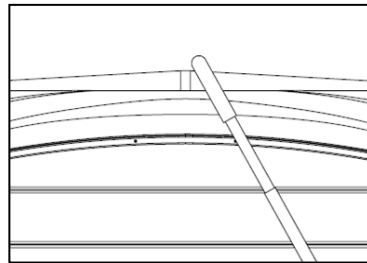

Figure 6
- d. Next raise the cover lifter so that the CROSS TUBE rests 1 inch (2.5cm) behind the cover hinge seam, as shown in Figure 6.